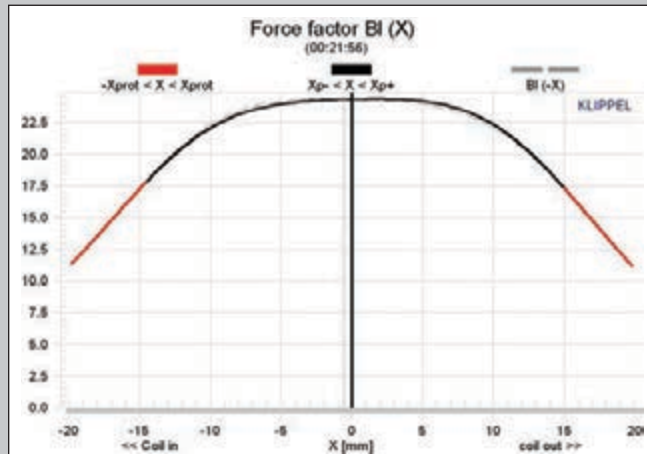
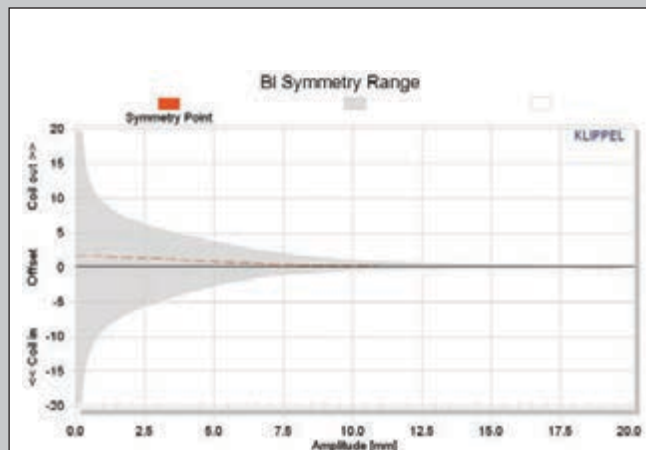
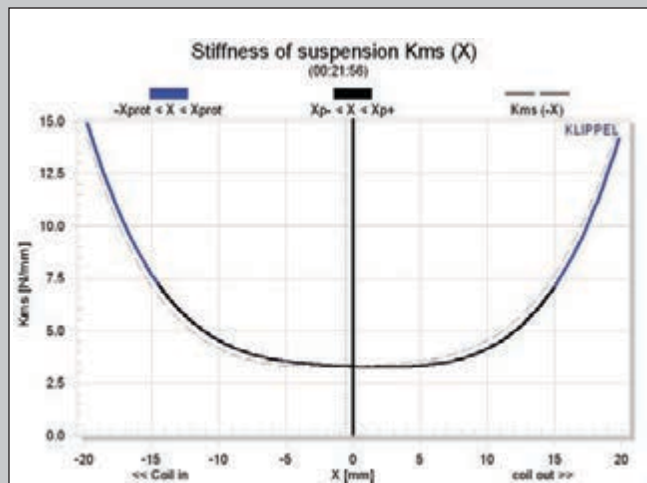

Figure 6: Klippel Analyzer BI (X) curve for the BMS 15N850V²
Figure 7: Klippel Analyzer BI symmetry range curve for the BMS 15N850V²
Figure 8: Klippel Analyzer mechanical stiffness of suspension Kms (X) curve for the BMS 15N850V²
Klippel analysis for BMS 15N850V2 (my analyzer is provided courtesy of Klippel GmbH)—which as usual was performed by Patrick Turnmire, Red Rock Acoustics (author of the SpeaD and RevSpeaD transducer simulation software)—produced the Bl(X), Kms(X) and Bl and Kms Symmetry Range plots given in **Figures 6** to **9**. Like many of the pro sound companies that contribute samples to *Voice Coil* for this column, BMS has its own Klippel analyzer.
The Bl(X) curve for the 15N850V2 (see **Figure 6**) is nicely broad and symmetrical typical of a high Xmax driver (12 mm is substantial for a pro sound 15" woofer) with a very small amount of coil out (forward) offset. Looking at the Bl symmetry plot (see **Figure 7**), this curve shows negligible 0.79 mm of forward (coil-out) offset in the 5-mm position (a more reliable number than at rest in this case) decreasing to about 0.1 mm, at the driver's physical Xmax of 12 mm, all of which is of no real consequence. **Figures 8** and **9** depict the Kms(X) and Kms symmetry range